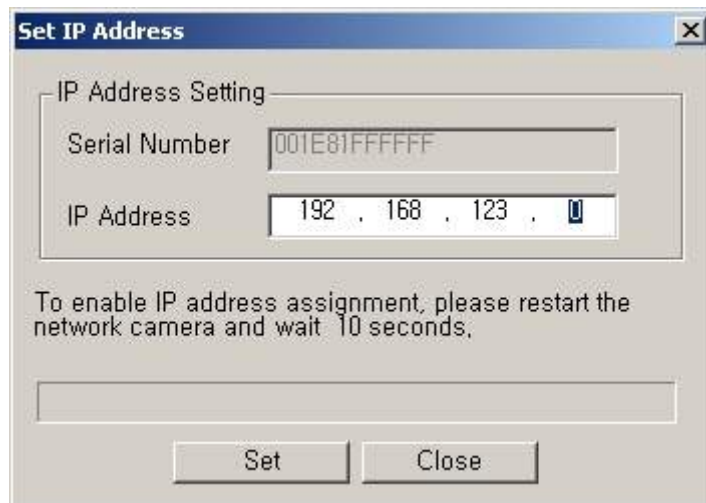

Figure 3-3. IP Address box
2. Select the camera of which you wish to change the IP address and click **IP** (Set IP Address) button to bring up the following box in Figure 3-3.